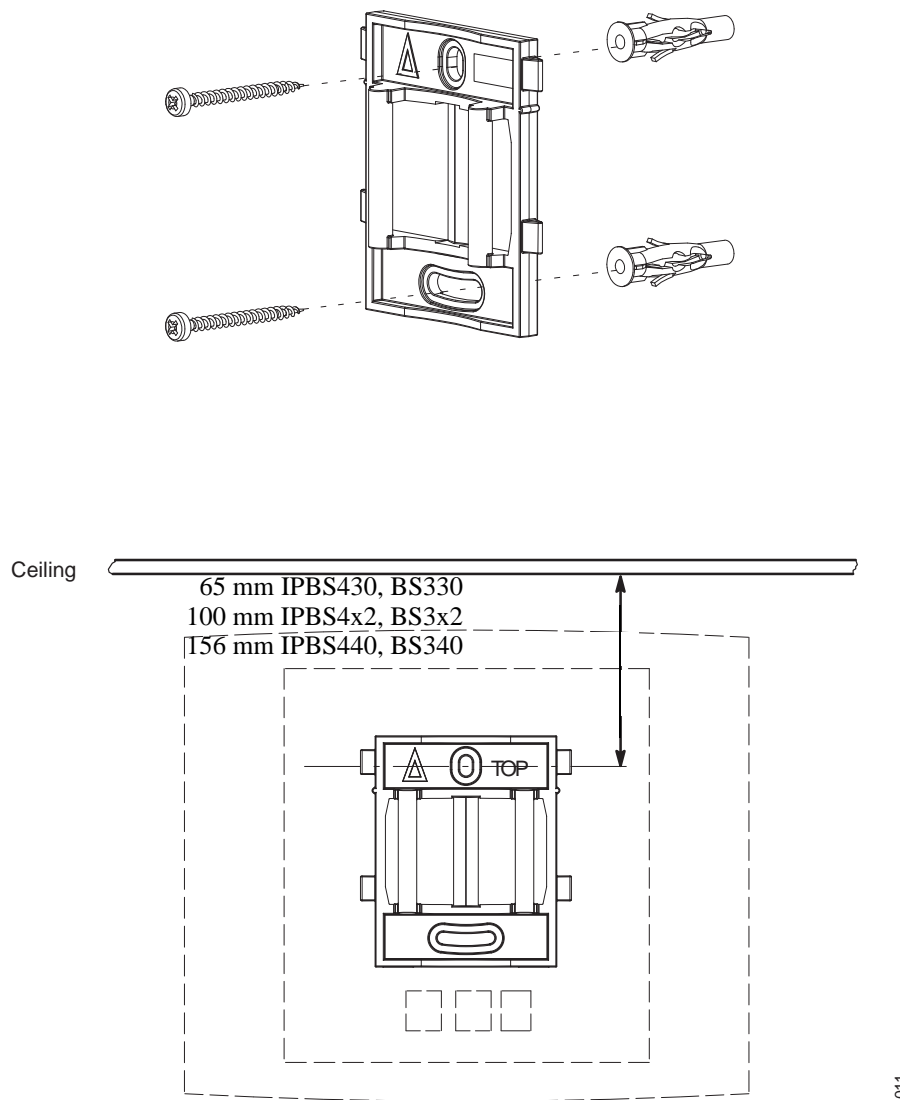

Figure 7. Fixing the mounting bracket to a wall.
Fix the mounting bracket (see figure 7 on page 16) to the wall as follows:
- 1 Hold the mounting bracket with its flat side against the wall with the text 'TOP' upwards and mark the two holes. The minimum distance between the upper hole and the ceiling or any object above the base station must be at least 65 mm for IPBS430 and BS330, 100 mm for IPBS4x2 and BS3x2 and 156 mm for IPBS440 and BS340, see figure 7 on page 16. If the distance is less than 65/100 mm, the base station cannot be slid onto the bracket.